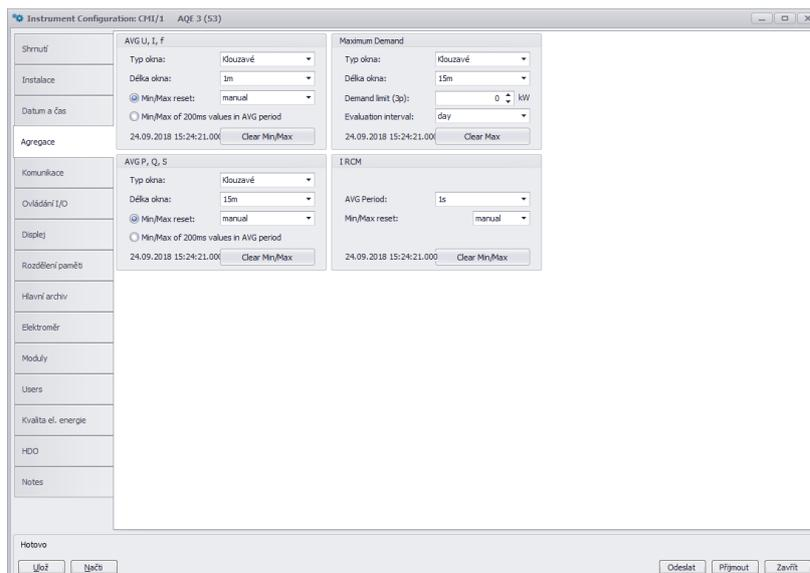

Figure 12: ENVIS.Daq — aggregation setting defines the averaging and evaluation of maximum and minimum values for display and communication.
2.4.3 Aggregation (averaging, fig. 12)